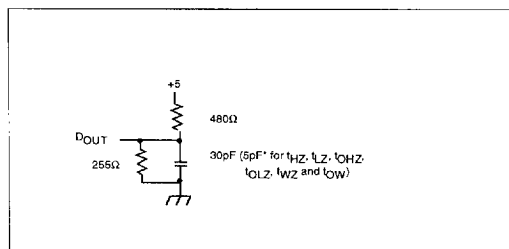

Figure 1. Output Load
- Transition is measured ±200mV from steady state voltage prior to change with specified loading in Figure 1. This parameter is sampled and not 100% tested.
12. Transition is measured $\pm 200\text{mV}$ from steady state voltage prior to change with specified loading in Figure 1. This parameter is sampled and not 100% tested.
Output Load	See Figures 1 and 2